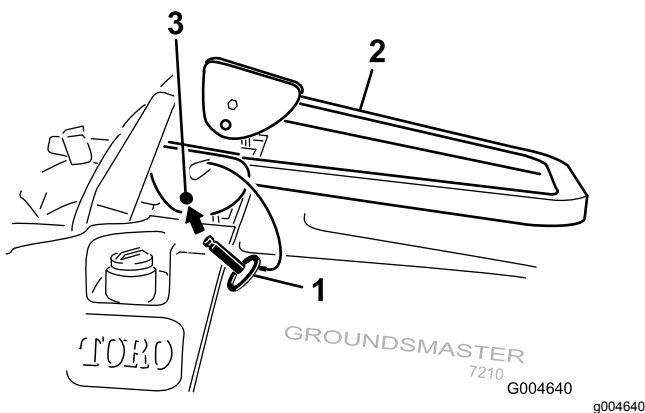

Figure 13
2. Lower the roll bar to the down position (Figure 13).